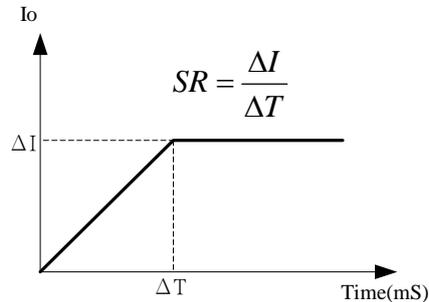

Figure 3-23
2. Use the numeric ( ~ ) keys or “Rotary” () knob to set the value. Take example by 62150H-600, the output current slew rate of the DC Power Supply is set as Figure 3-23 shows. The maximum input Slew Rate is 0.1A/mS and the minimum is 0.001A/mS. If the input is larger than 0.1A/mS, the current Slew Rate will be set to INF. and change with maximum slew rate (near infinite). The output of DC Power Supply will follow the slew rate to rise to the set output current.